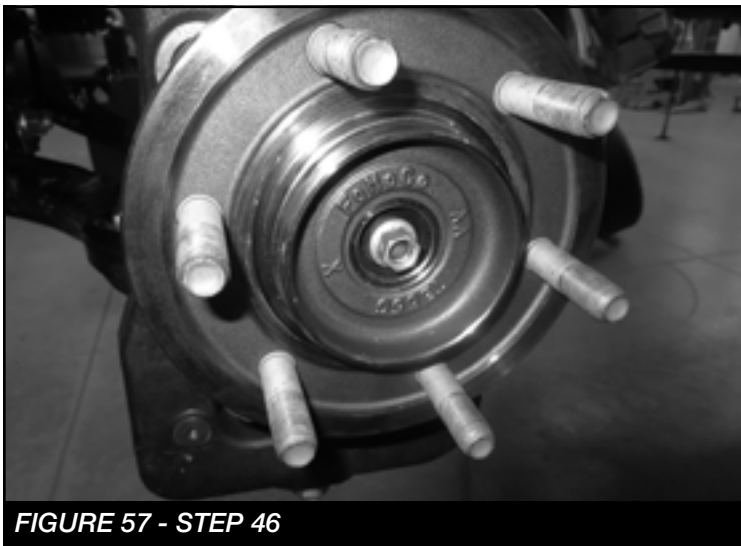

FIGURE 57 - STEP 46
46. Install the CV axle shaft nut and cover. Torque the 25 ft-lbs. **SEE FIGURE 57**